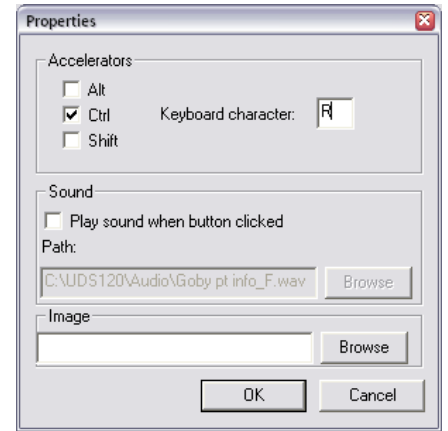

Figure 141: Properties Window
3. The *Properties* window will appear (Figure 141). Select a key combination that will correspond to the control panel button. In our example, we will apply a shortcut key combination of CTRL+R to the *First Sensation* button.